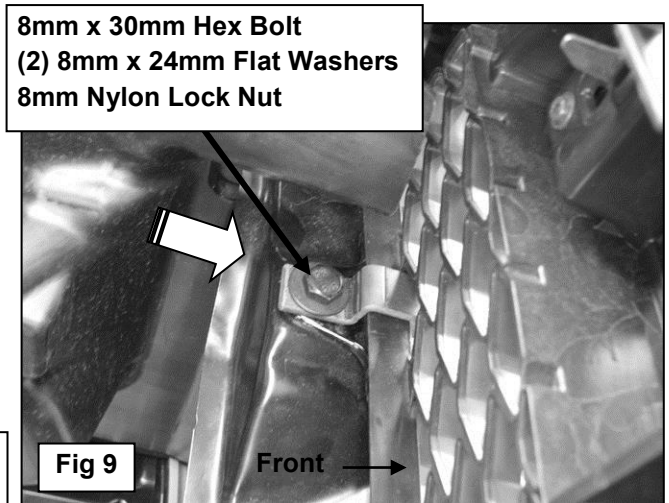

Fig 9
- Remove the (2) plastic clips securing the bottom of the grille insert to the crossmember, **(Figure 6 & 7)**. Select (1) Top Bracket and from behind the grille, insert the Bracket through the opening in the grille insert, **(Figure 8)**. Line up the hole in the Top Bracket with the tab on the crossmember and secure with (1) 8mm x 30mm Hex Bolt, (2) 8mm x 24mm x 2mm Flat Washers and (1) 8mm Nylon Lock Nut, **(Figure 9)**. Leave hardware loose. Repeat this step for passenger side Top Bracket installation.